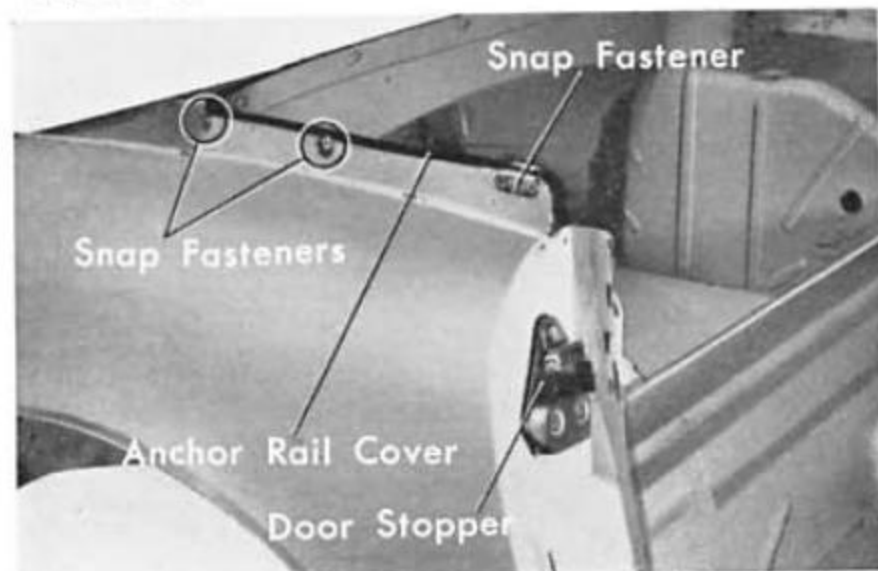

Fig. 17F-25
43. Detach the rear combination lights and license plate light (Fig. 17F-22).